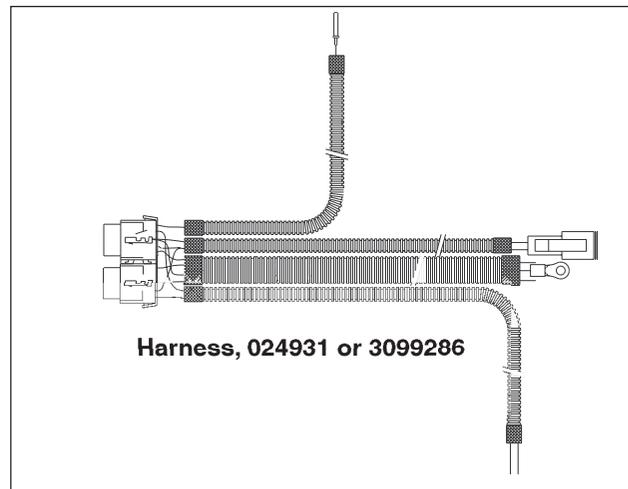

FIG. 10
2. ECM/Ground Connection. Locate the harness marked "024931" or "3099286" (Fig. 10). Connect the harness as follows: